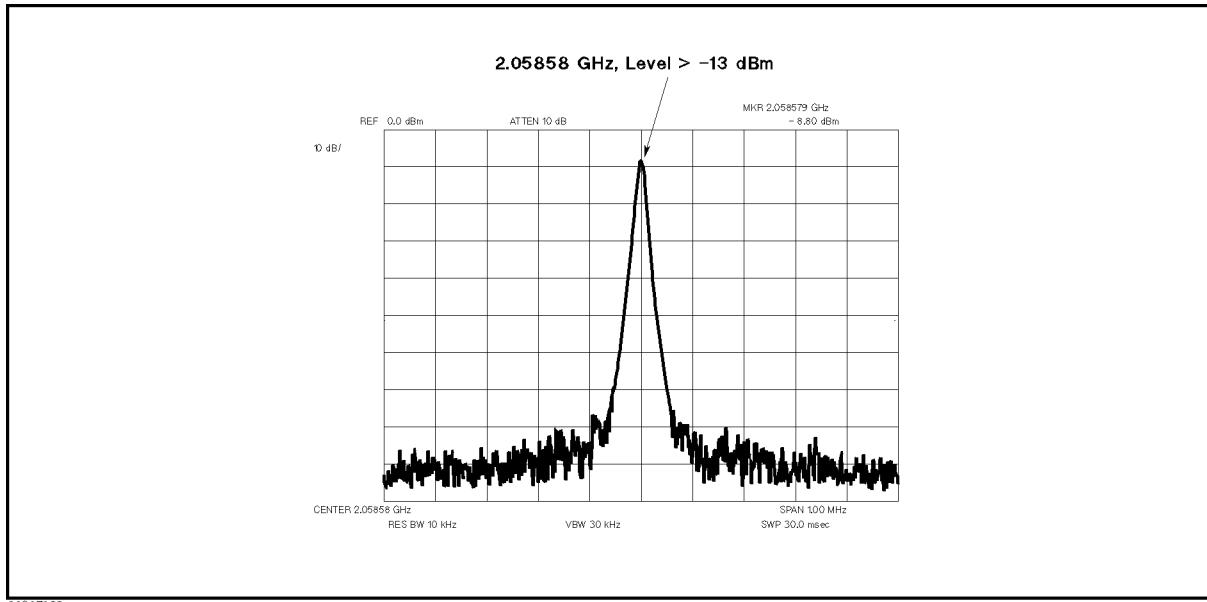

Figure 7-22. Typical 2.05858 GHz Signal
- f. Check that the frequency is 2.05858 GHz and the level is higher than -13 dBm. The displayed trace should be as shown in Figure 7-22.